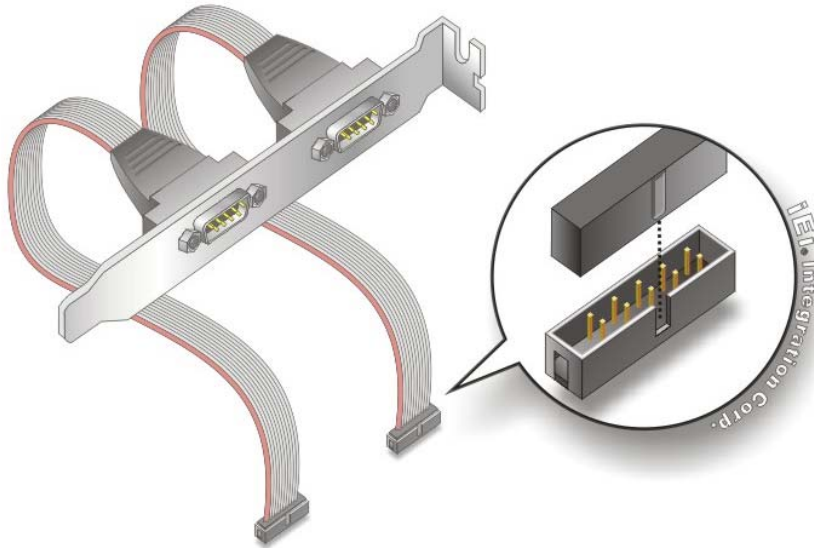

Figure 4-11: Dual RS-232 Cable Installation
Step 2: Insert the cable connectors. Insert one connector into each serial port box headers (**Figure 4-11**). A key on the front of the cable connectors ensures the connector can only be installed in one direction.